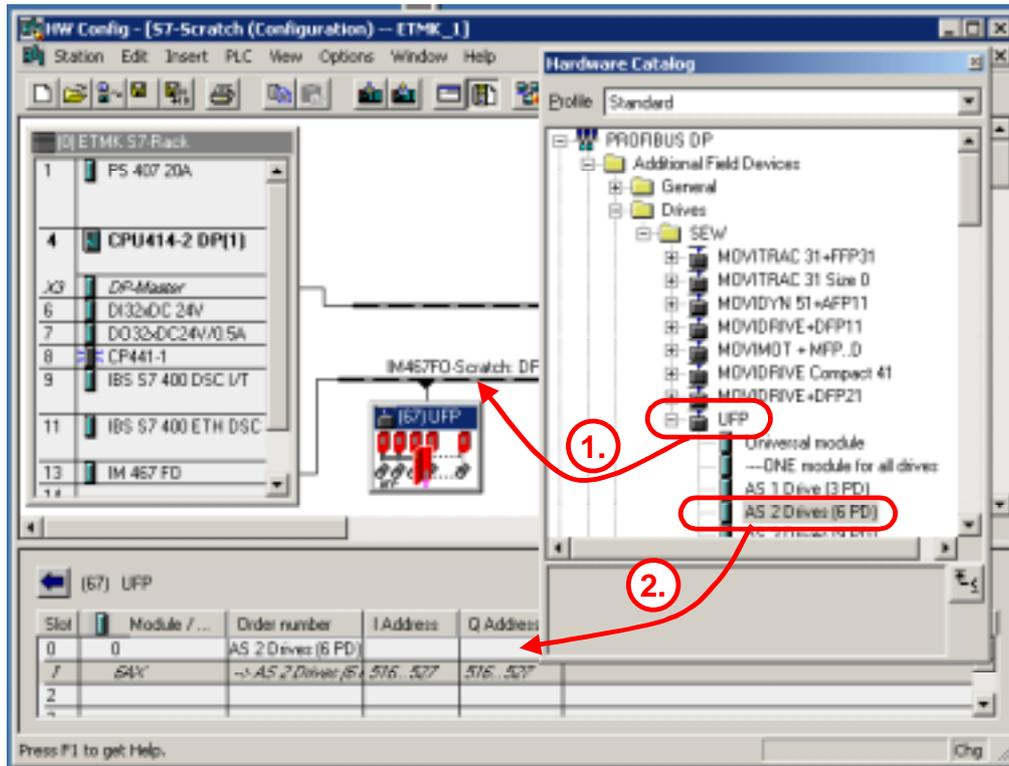

Bild 1: Set-up the UFP in the STEP7 Hardware Configuration
- Open the Hardware Catalog and connect the device „UFP“ of the folder „PROFIBUS DP / Additional Field Devices / Drives / SEW /” to the PROFIBUS line (see Figure 1, no. 1).
- Choose the DP configuration „**AS 2 Drives (6PD)**“ and insert this module to slot 0 (see figure 1, no. 2).